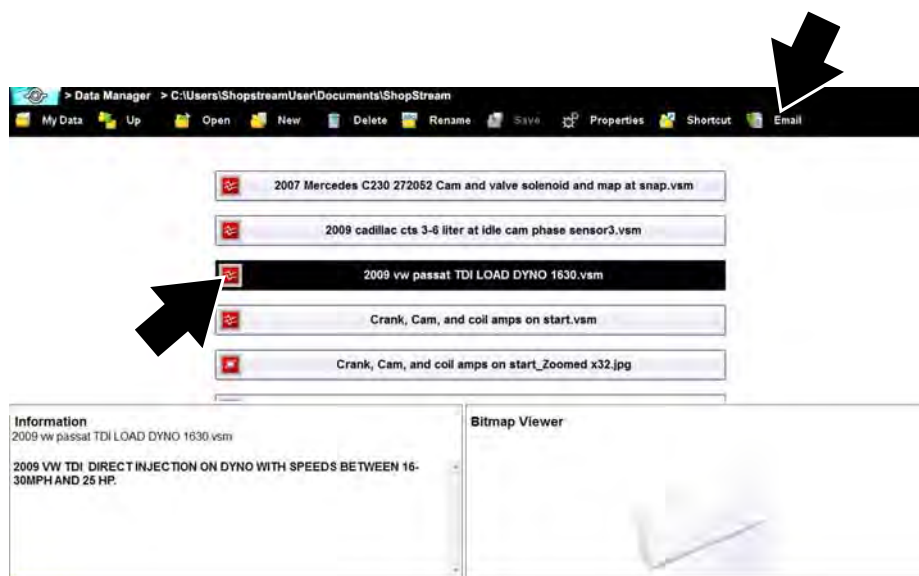

Figure 11-7
1. From the Data Manager main screen, select a file from within one of the folders (e.g. Camera, Scanner Data, Scope Multimeter, etc). In this example (Figure 11-7), a Scope data file was chosen.